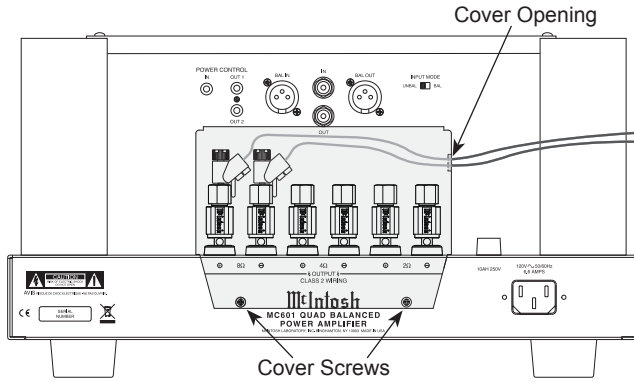

Figure 5 (Inside USA and Canada)
7. Locate the Terminal Connections Cover from the inside of the MC601 shipping carton. Insert the just prepared Loudspeaker hookup cables thru the cover opening on the right side. Refer to figure 5.
*Note: The illustration in figure 5 is connections for 8Ω (ohms) Loudspeakers.*
11. Attach the Terminal Connections Cover to the MC601 Rear Panel with the previously removed Screws. Refer to figure 5.